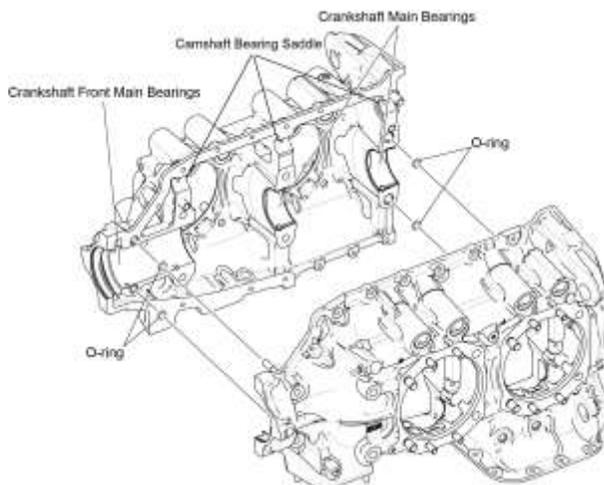

Figure 12
(5) Remove and discard the crankshaft main bearings, crankshaft front main bearings, and O-rings (Figure 12).